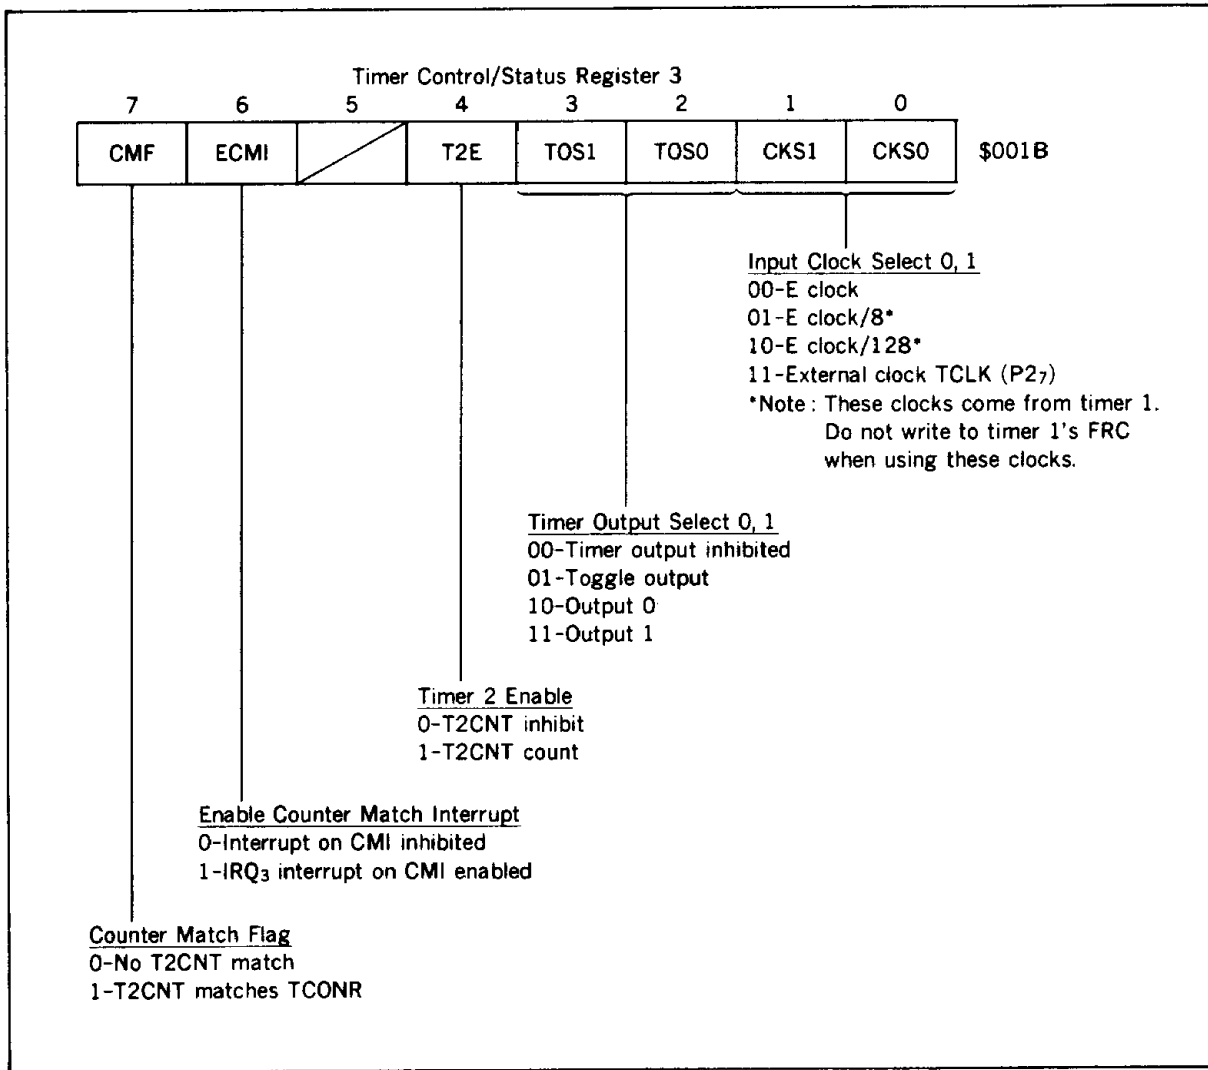

Figure 30. Timer Control/Status Register 3
**Timer Control/Status Register 3 :** Timer control/status register 3 (TCSR3: \$001B; figure 30) is a 7-bit register. All bits can be read and all bits except for bit 7, CMF, can be written to. CMF can only be cleared, not set. The TCSR3 is cleared at reset.
- **CKS0, CKS1**: CKS0 and CKS1 select timer 2's input clock as shown in figure 30. When an external clock is selected, P27 will be the clock input automatically.
- **TOS0, TOS1**: TOS0 and TOS1 select the output that occurs on a counter match as shown in figure 30.